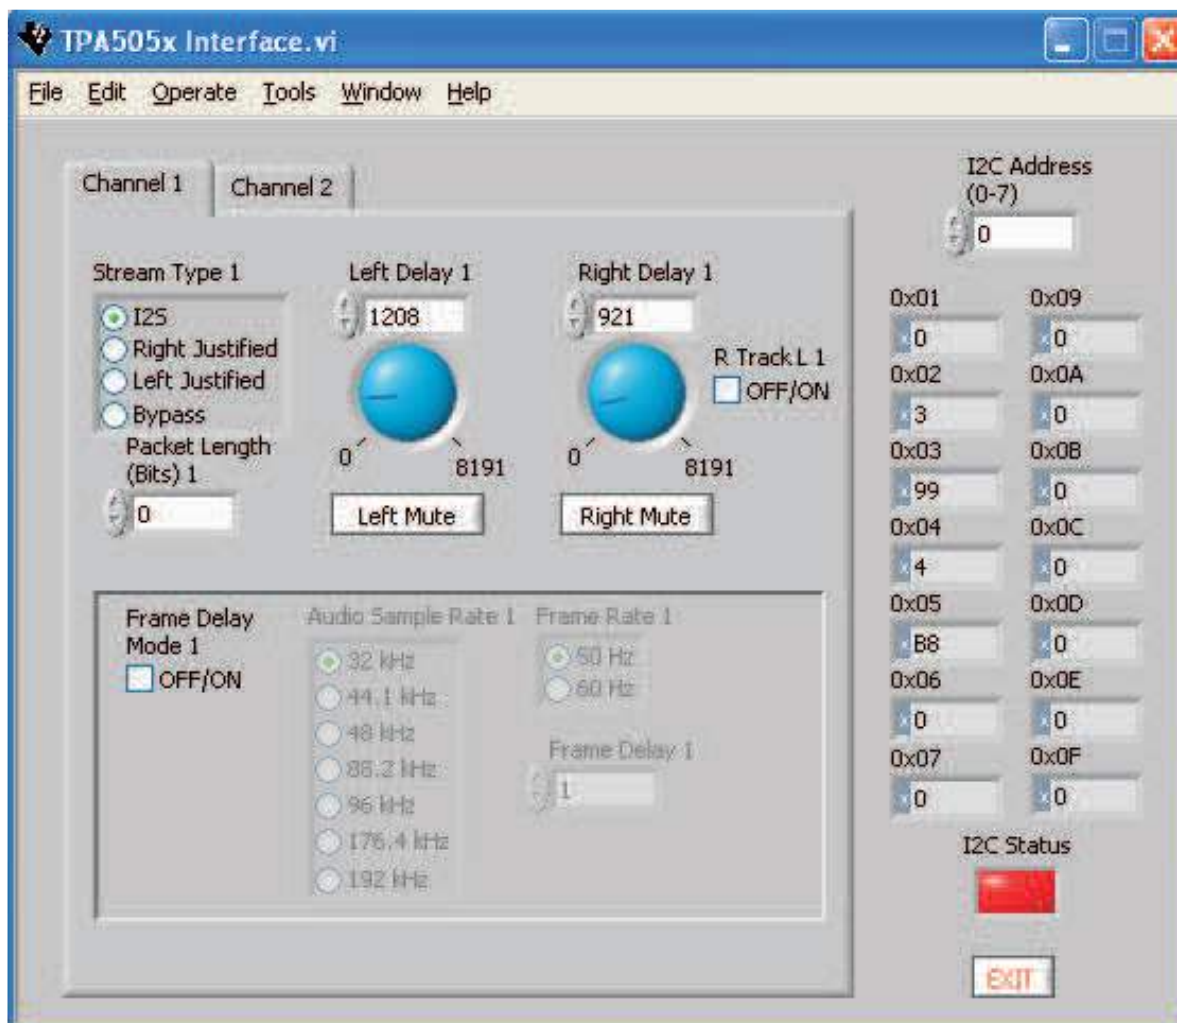

Figure 4. TPA5051 in I²S Mode – Unable to Communicate
8. The *I2C Status* display at the bottom right indicates whether the device and the computer are communicating properly. A red status bar indicates a problem. A green status bar indicates the device and computer are talking (see Figure 4). Possible solutions to the red status bar problem are to depress and release the **reset** button on the TI Input USB board, check to see that all cables are properly connected, restart the TPA5051 GUI, remove and then re-insert the USB cable into the computer, reboot the computer, or re-install the software.